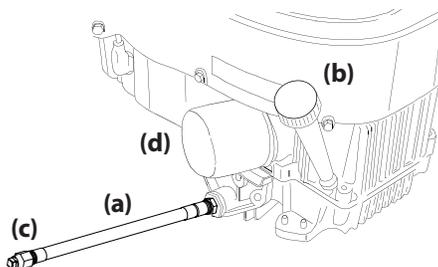

Figure 4-5
2. Locate the oil drain hose (a) on the right side of the engine. See Figure 4-5.
4. While holding the free end of the oil drain hose (a) over the oil collection container, unscrew the square head hose plug (c) from the end of the oil drain hose (a). See Figure 4-5. Drain the engine oil into the collection container.